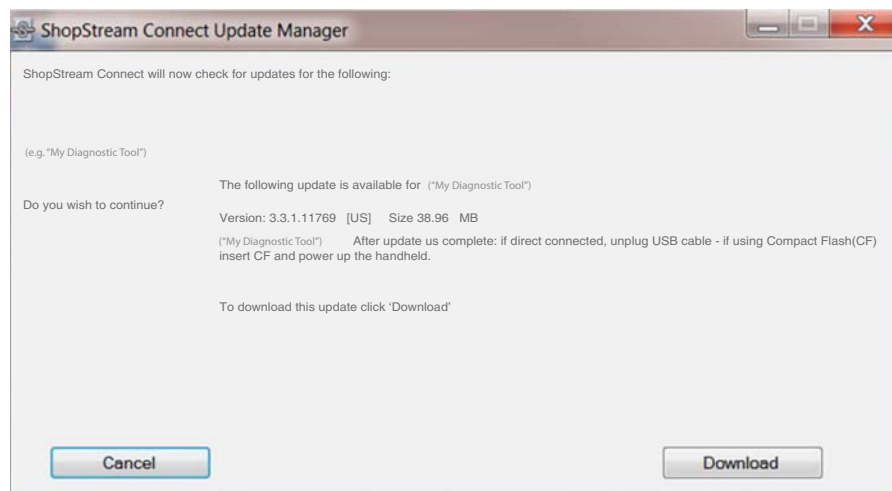

Figure 9-9
2. If service release updates are available, select **Next** to continue, then select **Download** and follow the on-screen instructions to complete the installation (Figure 9-9).